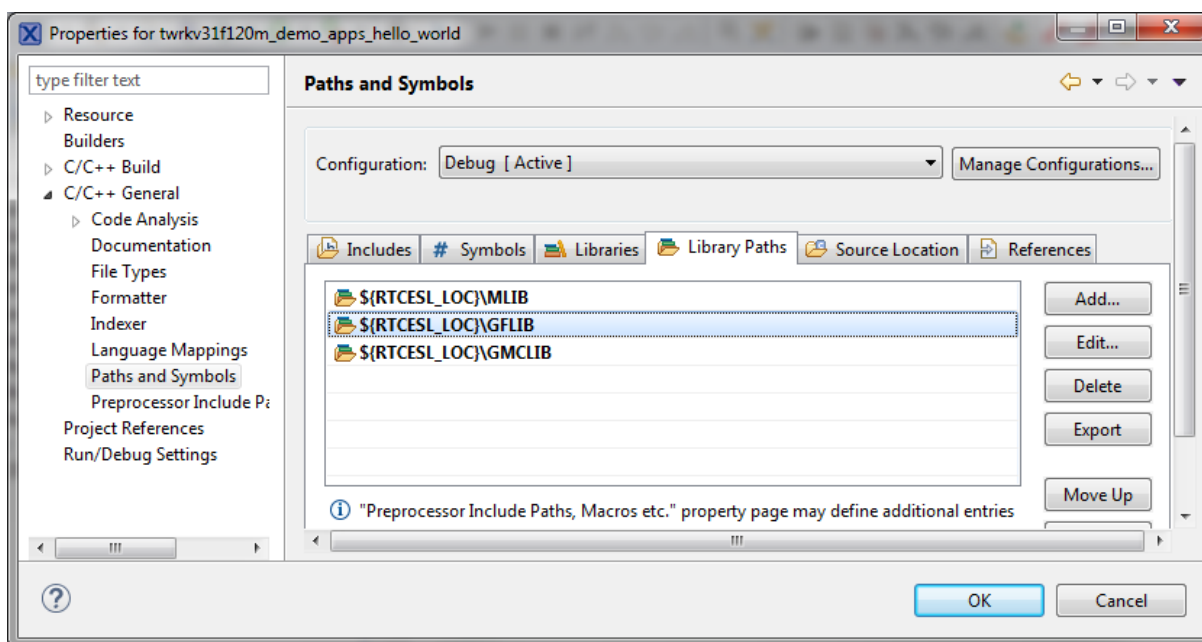

Figure 1-9. Library paths
3. In the right-hand dialog, select the Library Paths tab. See Figure 1-9.
10. Click OK, you will see the paths added into the list. See Figure 1-9.